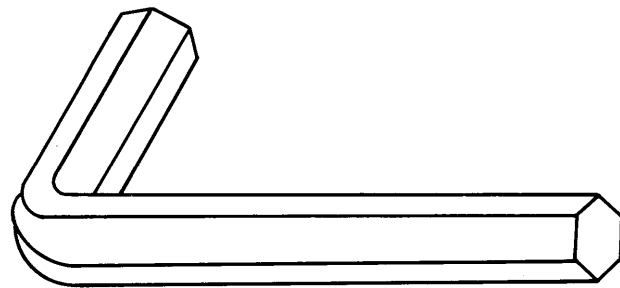

Figure 4-31. Hexagonal Setscrew Wrench (Allen Wrench)
(6) Hexagonal wrenches. Hexagonal setscrew wrenches (Allen wrenches) are L-shaped, headless, hexagonal bars that range in size from 3/64-to 1/2-inch. A typical Allen wrench is shown in figure 4-31. They are used in tightening or removing screws that have hexagonal recesses.